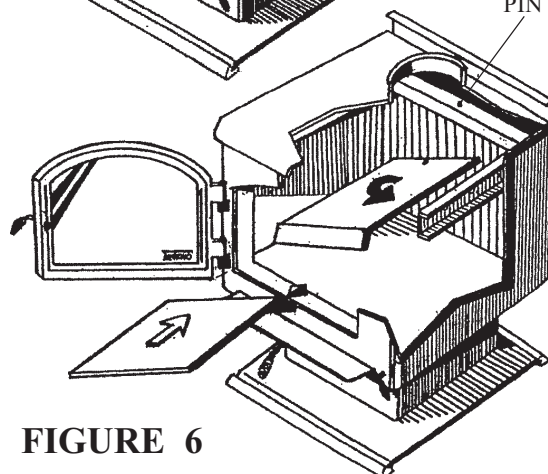

FIGURE 6
8. To install the baffle, reverse Steps 1 through 7. The hole in the baffle must be on its alignment pin on the rear shelf. **See Figure 6.**